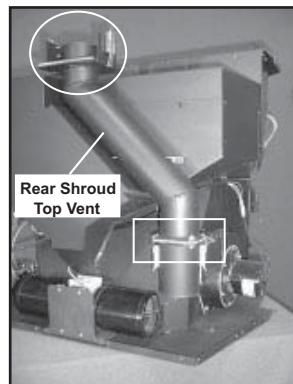

Figure 18.3
3. Use (2) 1/4 - 20 x 3/4 inch bolts with nuts to install rear shroud top vent to the exhaust transition. See boxed area in **Figure 18.3.** (Circled area, top vent adapter, will be installed later).
Install 3 inch or 4 inch (76 or 102mm) top vent adapter. See circled area in **Figure 18.3 on page 18.** NOTE: This adapter may be attached to outside venting prior to latching it on to the top vent pipe.